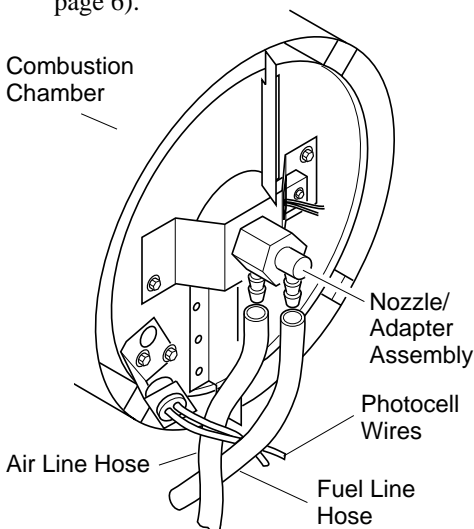

Figure 11 - Removing Air and Fuel Line Hoses
14. Replace photocell in photocell bracket. Route wires as shown in Figure 11, page 8.
3. Remove fuel and air line hoses from nozzle assembly (see Figure 11).
11. Attach and route fuel and airline hoses to nozzle assembly as shown (see Figure 11). Route photocell wires as shown in Figure 11.